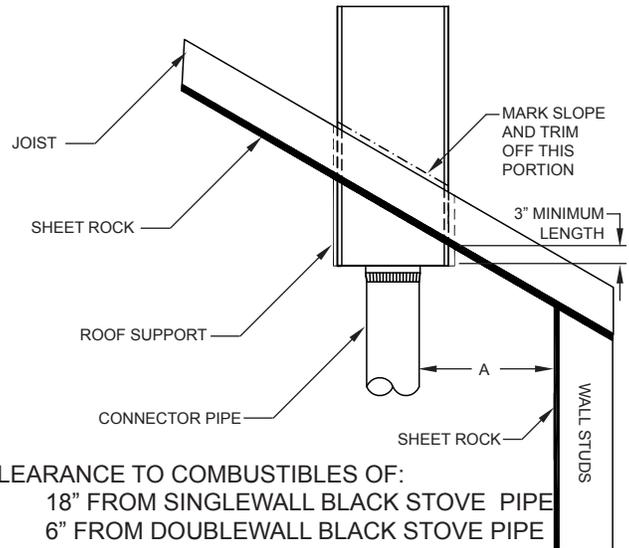

FIG. 13
- Insert TGRS into framed opening so that the TGRS extends a MINIMUM of three (3) inches below the finished ceiling on the lower side of the installation.
- With TGRS properly located, mark roof slope on the roof support (See FIG. 13.), Remove from opening and trim off excess metal.
- Reinsert TGRS and secure in position using a minimum 1" roofing nail, four (4) each per side.